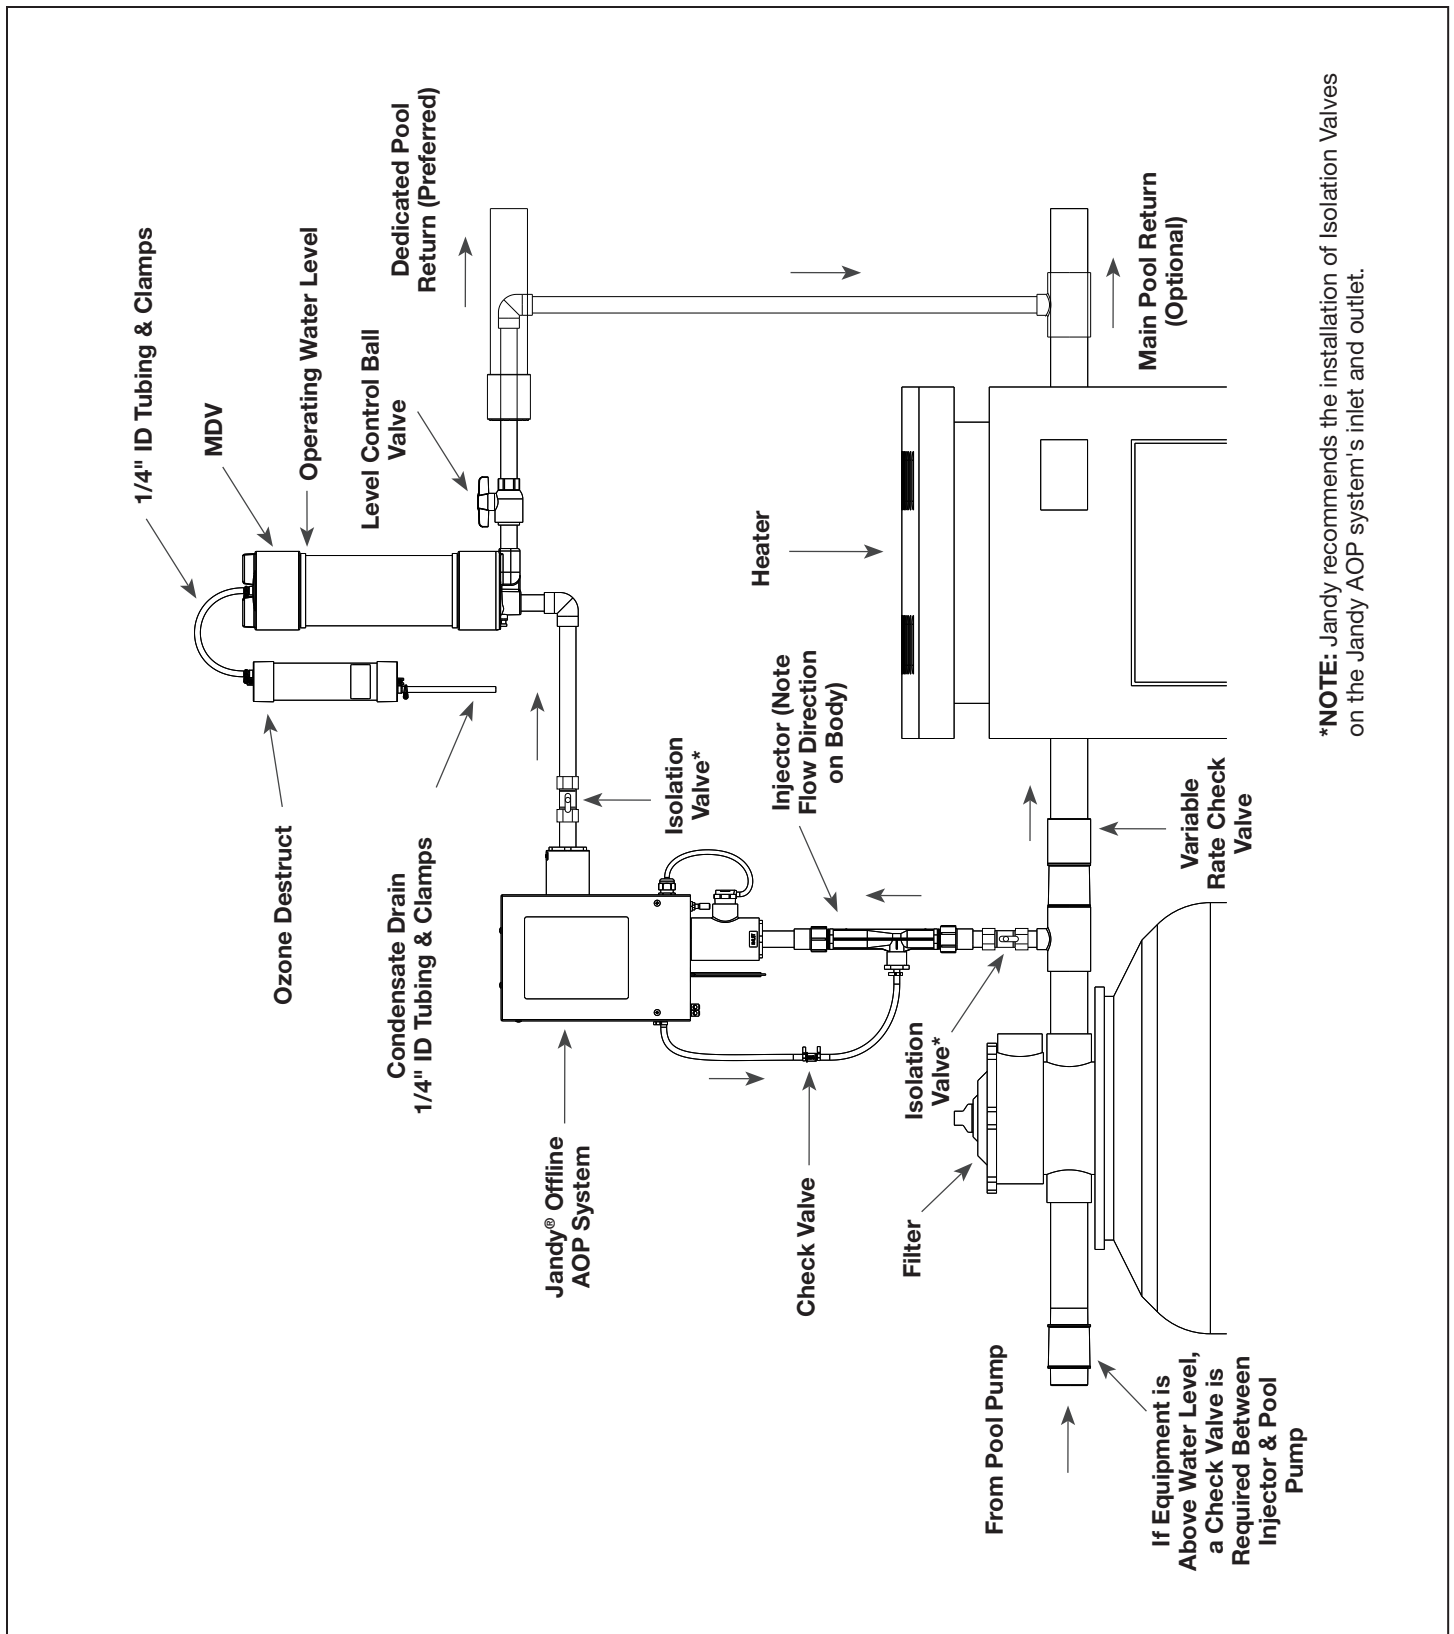

Figure 1. Typical Plumbing Arrangement with MDV (Pool with Heater)
**NOTE:** There are additional parts for the MDV installation (compare the typical plumbing arrangement diagram in the 4-2958-01 Jandy® X Series™ Offline AOP manual with Figure 1 in this manual). The additional installation steps specific to the MDV parts are described below.
2. Mount the MDV vertically, as shown in Figure 1, to a solid surface (e.g. fence, wall, post) using the (2) cable ties, (4) cable tie mounts, and (4) screws included. Use a pair of pliers to tighten and secure the cable ties. If trimming away excess, fold tab over to avoid the sharp edge. To avoid discoloration, mount in an area out of direct sunlight.
3. Mount the ozone destruct cartridge vertically to a flat surface using (2) #6 screws.
4. Install bypass plumbing as shown in Figure 1.